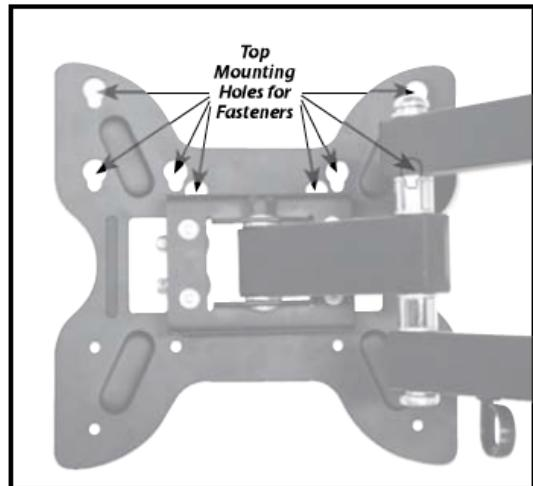
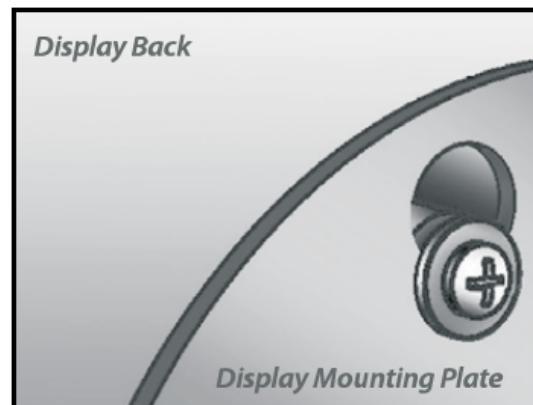

Fig. 6
Fig. 7
A. With the help of another person, lift your display and carefully insert the installed Fasteners into the wider portion of one of the top left and right holes of the Display Mounting Plate (Fig. 6). Ease your display down into the smaller portion of these holes until the Fastener notch catches (Fig. 7). Have your assistant hold on to the display while you get the two Spacers (G) and remaining two bolts (A, B or C) that you selected.